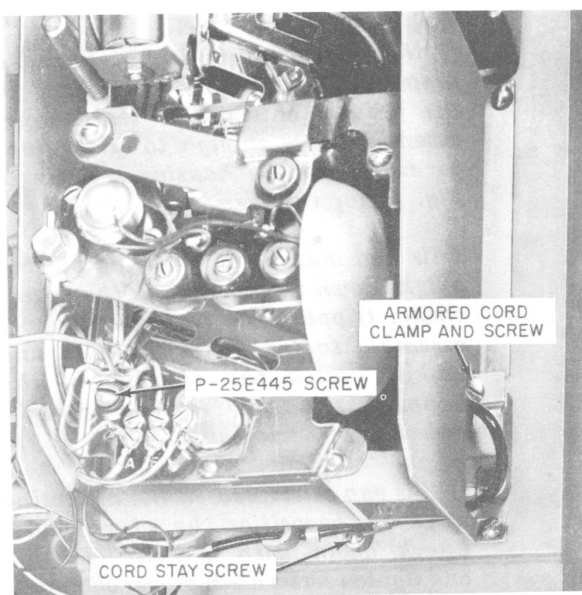

Fig. 10—Location of Cord Stay Screw and Cord Clamp
- (3) Loosen P-25E445 screw in lower left corner of chute assembly (Fig. 10). Exercise care not to loose P-12A681 spring located under screw head.
- (1) Remove gong signal and chute assembly (4.03).
- (2) Disconnect handset leads from TB4.
- (3) Loosen cord stay screw (Fig. 10).
- (4) Remove screw and cord clamp from armored cord.
- (5) Pull cord out front of cover.
- (6) Install, using reverse procedure.